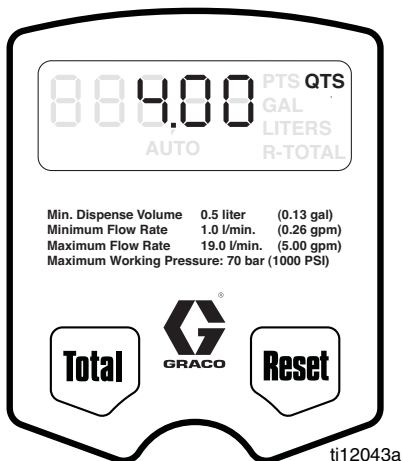

FIG. 14
1. If the display was blank (in sleep mode), press and hold the Total or Reset button. The amount of the last dispense appears on the display (FIG. 14).